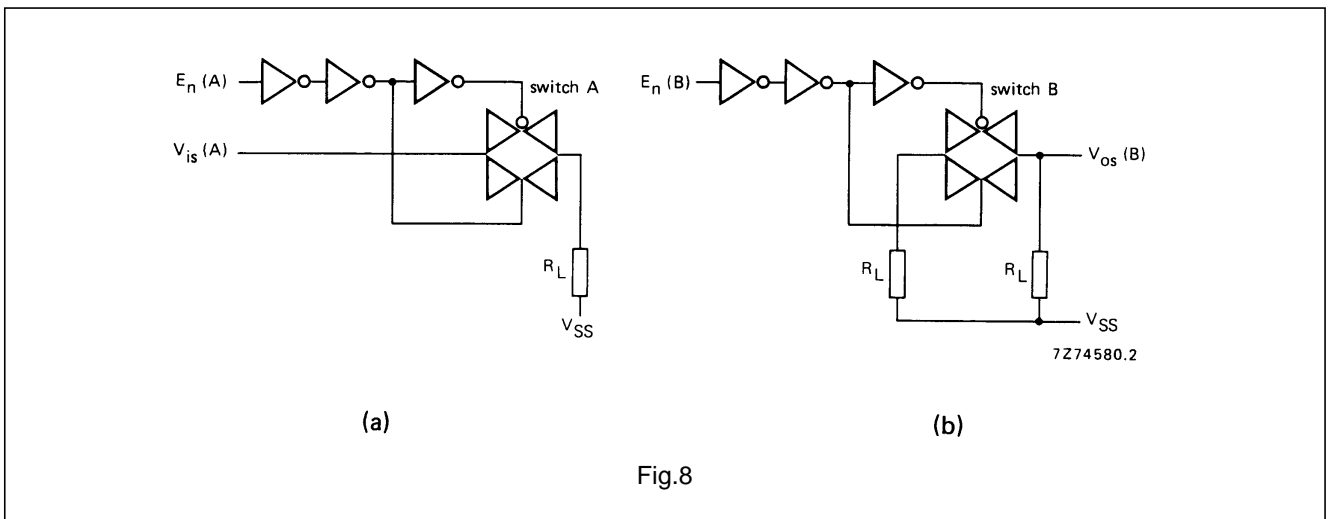

Fig.8
$$20 \log \frac{V_{os} (B)}{V_{is} (A)} = -50 \text{ dB}; E_n (A) = V_{SS}; E_n (B) = V_{DD}; \text{ see Fig. 8.}$$